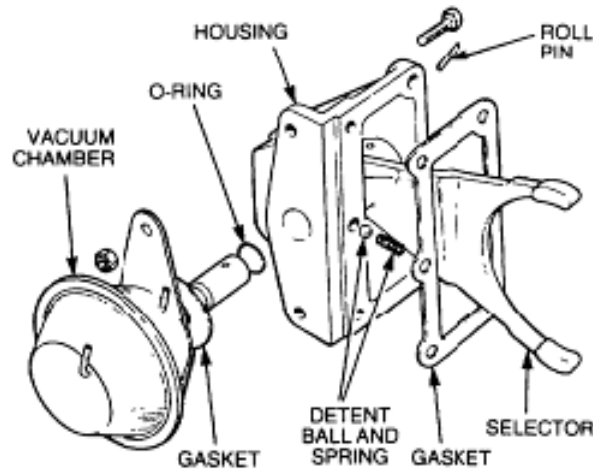

Figure 68 Vacuum Chamber Selector Disassembly
- g. Remove the detent spring and the ball from the housing (Figure 68).